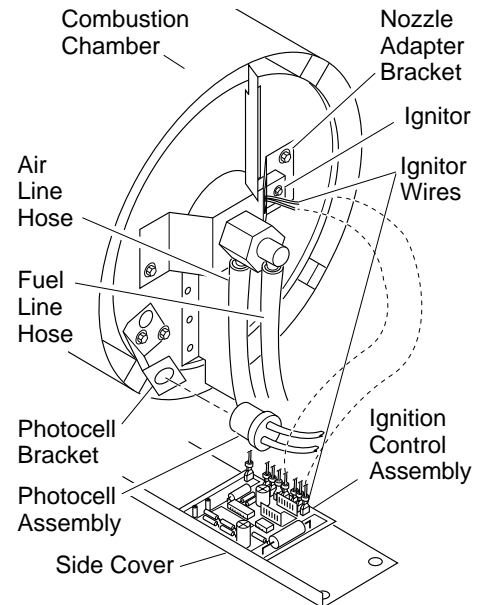

Figure 10 - Disconnecting Ignitor Wires from Ignition Control Assembly
4. Disconnect ignitor wires (yellow) from ignition control assembly (see Figure 10). Pull the ignitor wires up through the hole in the lower shell.
5. Disconnect fuel line hose and air line hose. Remove photocell from photocell bracket (see Figure 10).